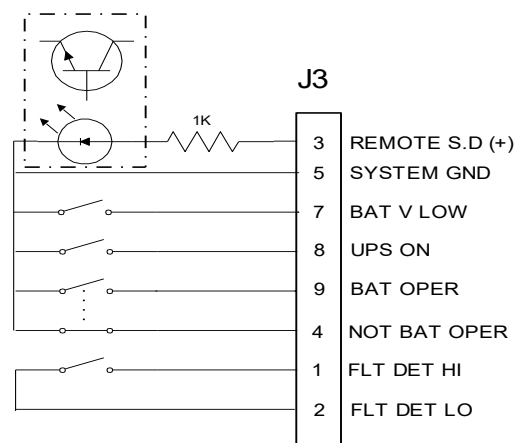

Figure 9 - Dry Contacts
Dry Contacts Interface is available through connector J3 (32), a D-Type 9P connector located on the back panel. This interface allows control and monitoring of the UPS by a server that does not have Ethernet or serial interface provision. Figure 9 below shows the dry contacts interface circuits. The pin assignment of J3 is shown on the next page.
Note: To control the UPS by the remote switches, leave all the front panel switches in the upper position. Turn the UPS On by connecting Pin 8 to the Common. Turn it off, by disconnecting Pin 8. Select the operation mode (UPS or By-Pass) by toggling the Common between Pin 6 and 7. (See Figure 9 below).